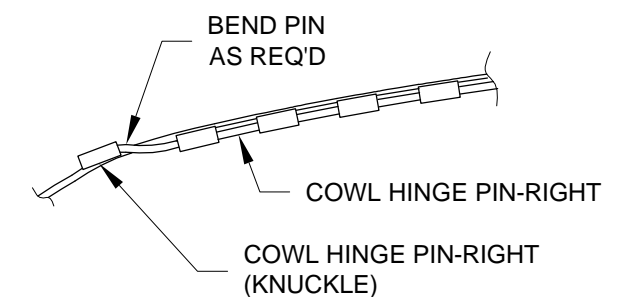

**FIGURE 3: SETTING THE PIN LENGTH (RIGHT SHOWN)**
**Step 6:** Using the Cowl Hinge Pin-Left and -Right, attach the upper half of the F-12115 Side Hinges to the lower half already clecoed to the bottom cowl. Insert the pin until it contacts the Firewall Bulkhead Assembly. See Figure 3. Mark the pin/cowl intersect point on the bottom cowl as shown in Figure 4.